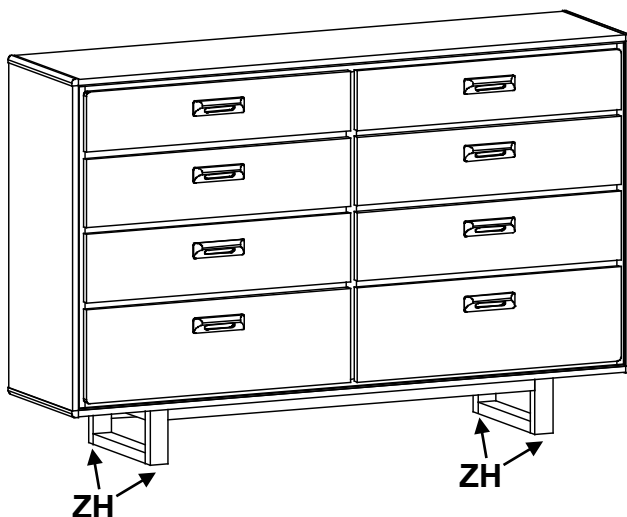

Fig. 2
2. Place the dresser at its final destination. Rotate the Small Adjustable Glides (ZH) on the bottoms of the legs until the unit is level. See Figure 2.